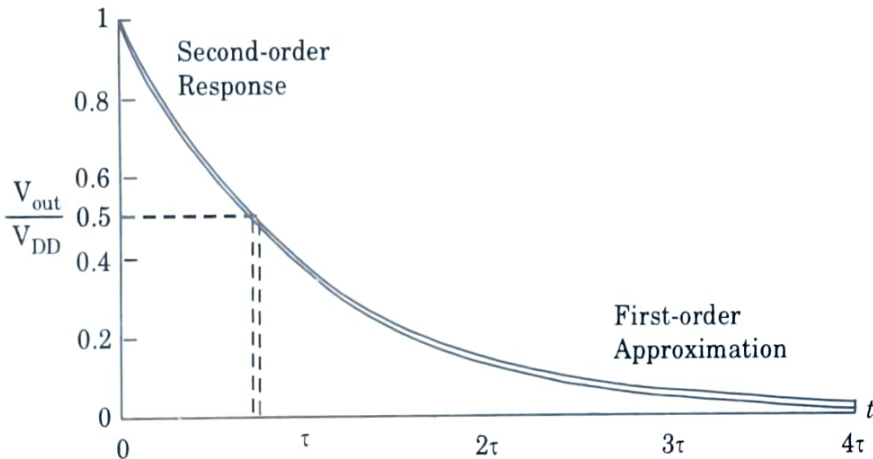

Fig. 2.11.4.
9. This approximation works best when one time constant is significantly bigger than the other. For example, if $R_1 = R_2 = R$ and $C_1 = C_2$ then $\tau_1 = 2.6 RC$, $\tau_2 = 0.4 RC$, $\tau = 3 RC$ and the second-order response and its first-order approximation are shown in Fig. 2.11.4.